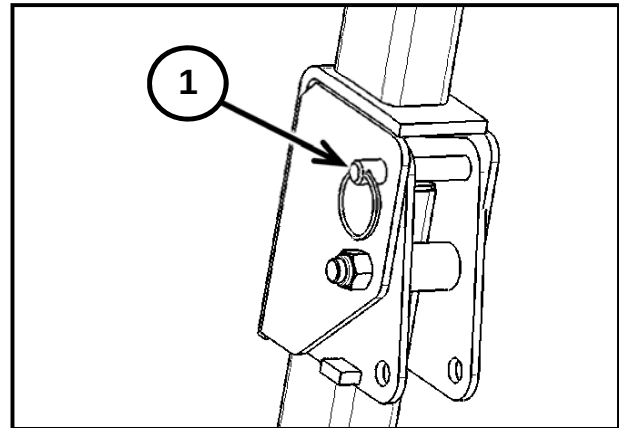

Figure 2-6
To fold the ROPS remove two lock pins (1) in Figure 2-6, lower the upper of the ROPS rearward.